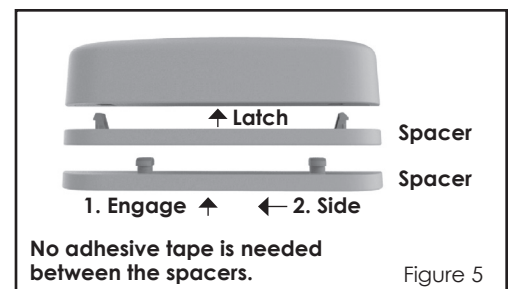

Figure 5
4. Spacers are used to raise the level of the magnet to be level/closer to sensor. Install Magnets as shown in Figure 5.